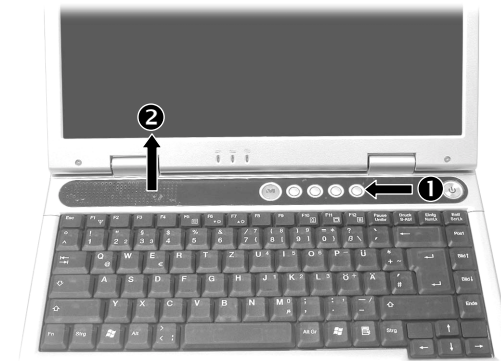

Figure 2-3 Remove easy start buttons cover
4. Push the rod firmly and slide the easy start buttons cover to the left (❶). Then lift the easy start buttons cover up from the left side (❷). (Figure 2-3)